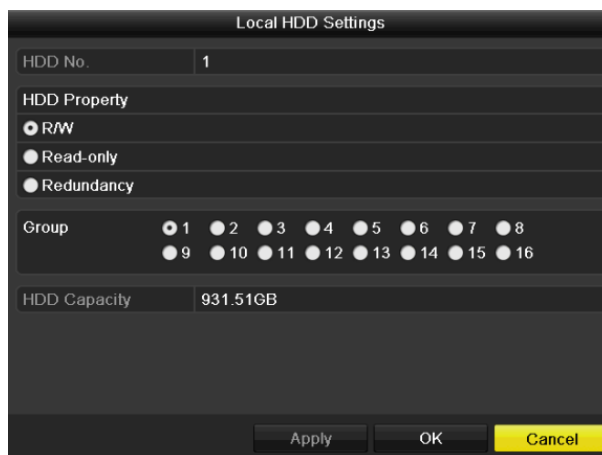

Figure 12. 17 Set HDD Property
2. Select HDD from the list and click the  icon to enter the Local HDD Settings interface, as shown in Figure 12. 17.